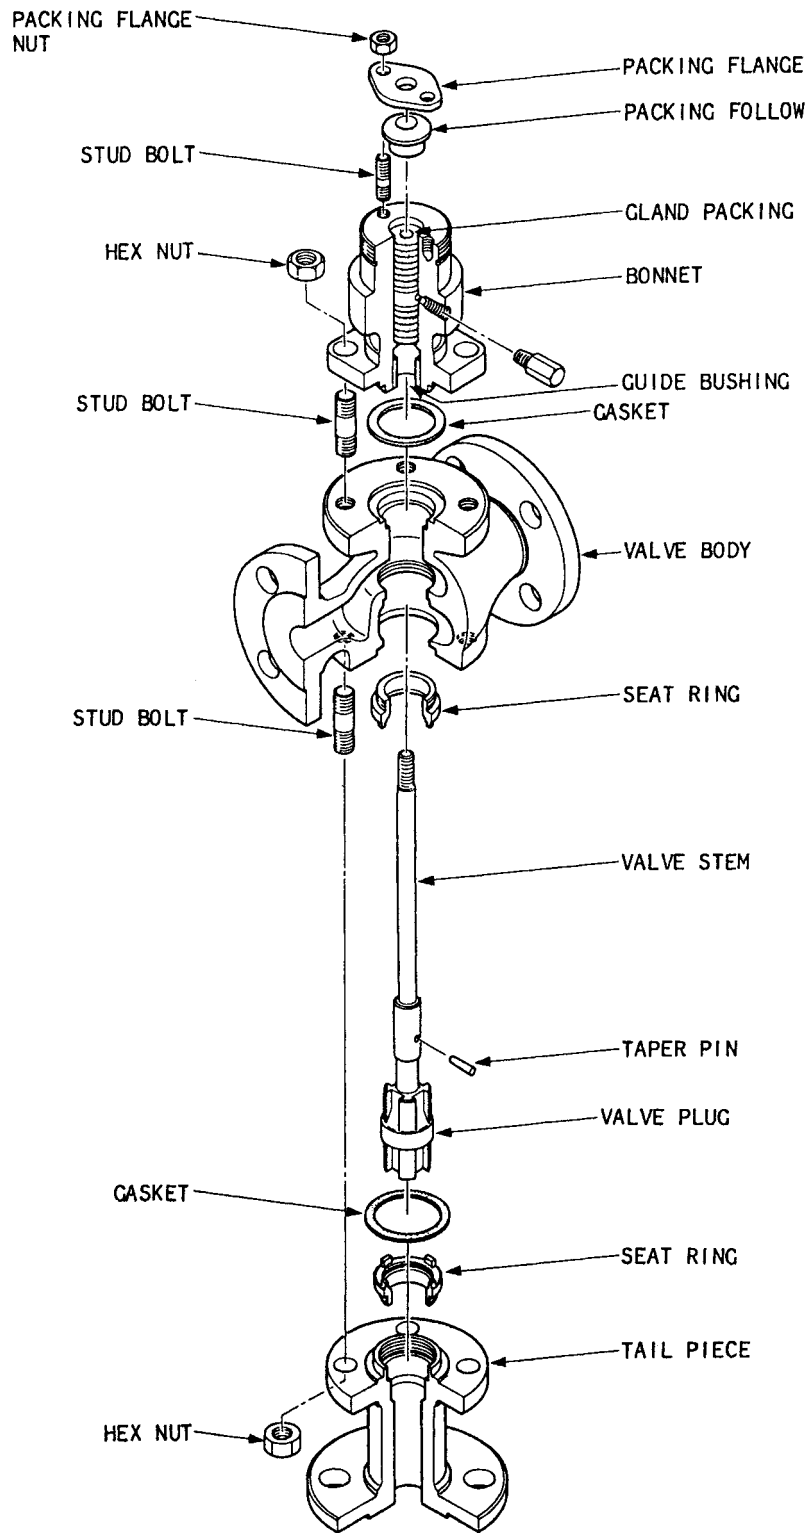

Fig. 4-1 Model AMT 1"
To disassemble or assemble the valve body, refer to Fig. 4-1 through 4-4 and proceed as described below.
• AMT (Mixing) Type (Refer to Fig.4-1, 4-2, 4-3)
- (1) Apply an air pressure to the diaphragm so that the pointer indicates slightly below the position AB-B for direct acting actuator provided or indicates slightly above the position AB-A for reverse acting actuator and hold it in either case so that the valve plug does not touch the seat ring.
- (2) Remove the stem connector to separate the actuator stem from the valve stem.
- (3) Release an air pressure from the diaphragm and disconnect the air piping.
- (4) Remove the yoke nut by turning it with a chisel and detach (pull up) the actuator from the valve body.
- (5) Remove the tail piece from the valve body by loosening the bottom nuts on the body.
- (6) Pull down the seating guide from the valve body. However, for 1" valve, unscrew and remove the seat ring from the tail piece as required.
- (7) Loosen the gland packing flange nuts and remove the valve plug from the bottom of the valve body.
- (8) Remove the bonnet assembling nuts and pull out the bonnet.
- (9) To remove the seat ring, use the "special tool* for mounting and removing the seat ring."
•AMT (Diverfing) Type (Refer to Figs. 4-1, 4-2, 4-3)